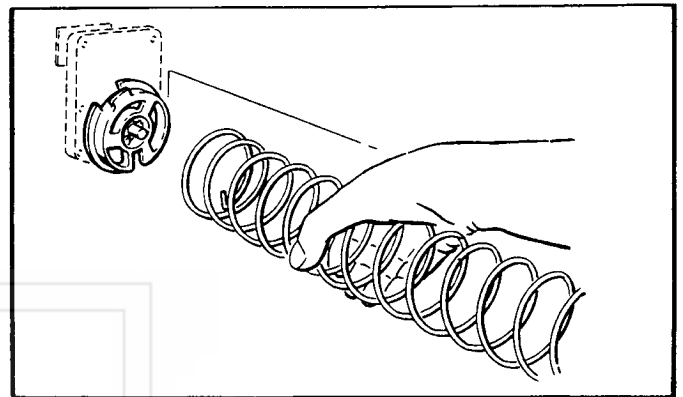
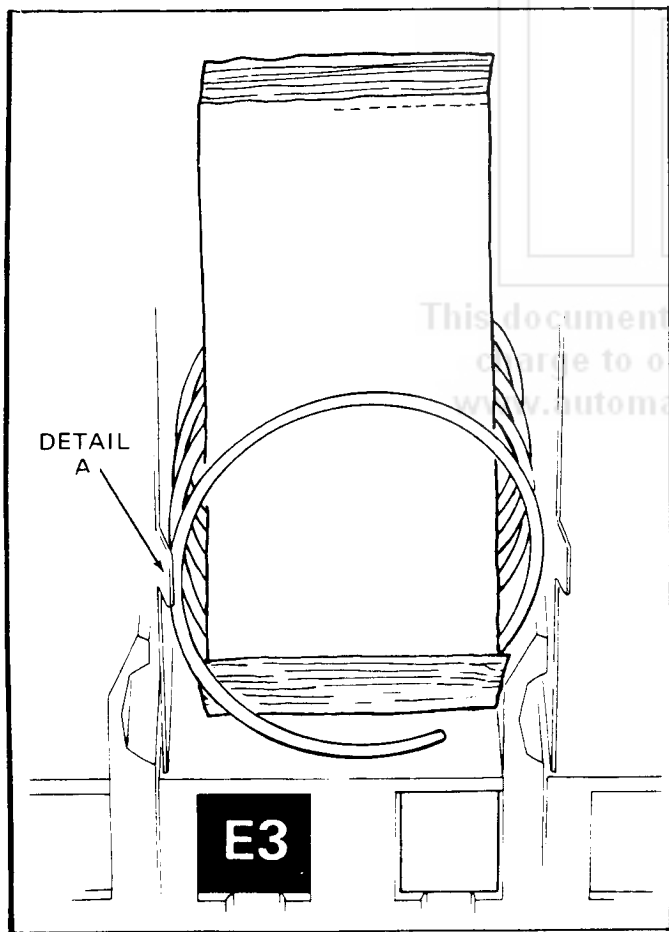

Figure 3. REMOVING AND INSTALLING SPIRAL.
Figure 5. PLACEMENT OF PRODUCT ON MAIN PRODUCT CANDY SHELVES AND FRONT END POSITION OF SPIRAL.
5. **REMOVAL OF SPIRAL:** Grasp the front of the spiral and turn it clockwise. Lift the spiral up and off of the spiral lock. When replacing a spiral attach it around the tab on the spiral lock and turn the spiral counterclockwise to lock it in place. Be sure the front end of the spiral is positioned properly (with the front end of the spiral pointing downward on the left side) (see Figure 3). The spiral lock is attached between the spiral retainer tabs. Give a light forward pull on front of the spiral to check if it is locked in place.
7. **LOADING MAIN PRODUCT CANDY SHELVES:** The 10-selection (candy type) shelves are loaded similar to the 5-selection shelves except that the bottom of the product sits on the shelf in front of the spiral wire (see Figure 5) that rests on the shelf. These products must also fit properly in the spiral space; do not force product into spiral.
These spirals are removed and installed the same as the large spiral (see Figure 3), except that the front end position is different (approximately 5 o'clock) (see Figure 5) and the front left side of the spiral must be behind the small tab located on the left side of the product space side wall (see Figure 5, Detail A).